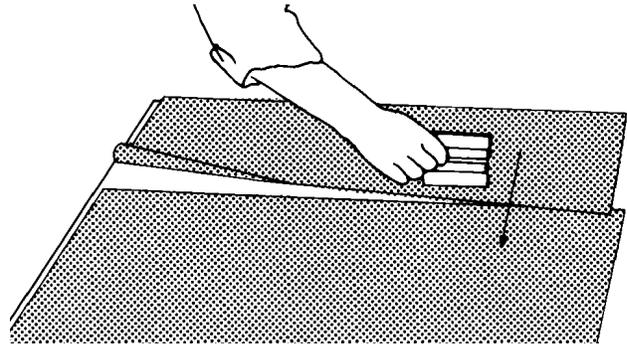

Figure 12. Squeegeeing the Second Piece over the First
- Squeegee the first piece of film onto the substrate and then squeegee the second piece of film. A natural overlapped seam will be created. See Figure 12.